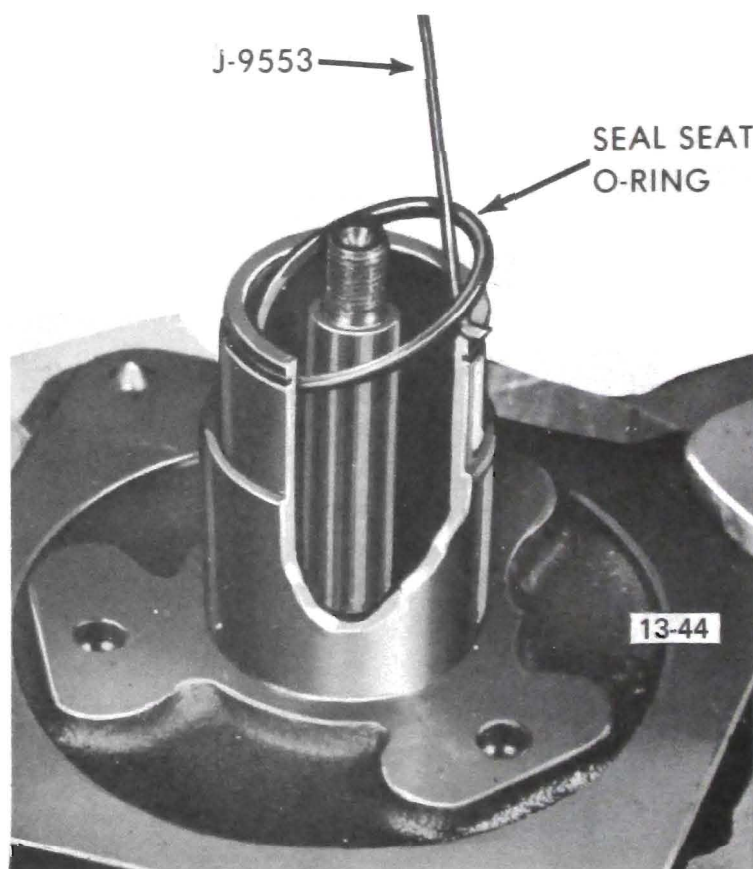

Figure 13-29 Removing Seal Seat O Ring
9. Remove the seal seat "O" ring, using Tool J-9553 (see Figure 13-29).